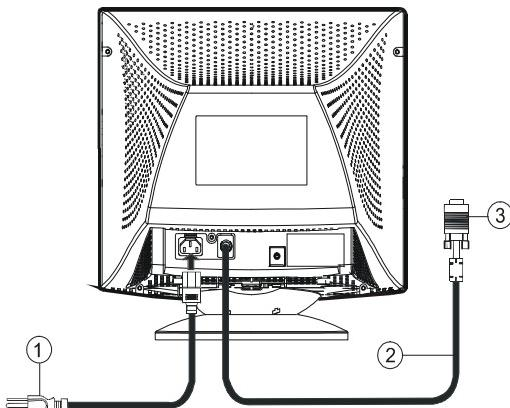

Figure 3: Connecting Cables
- 1 Plug the power cord into your monitor's power input socket. See Figure 3 for the socket's location.
- 1 Plug the video cable's 15-pin connector (see Figure 3) into the computer's video port. Be careful not to bend any pins on the connector.